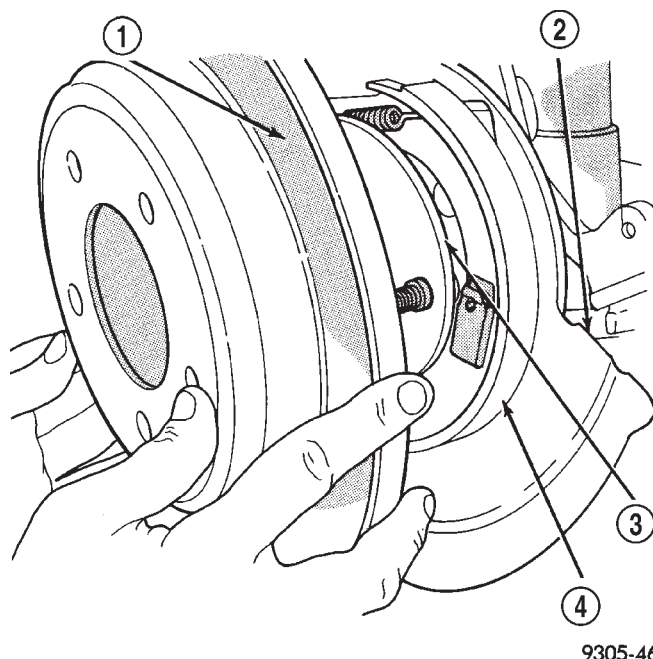

Fig. 93 Installing Rear Rotor
- (1) Completely retract caliper piston back into piston bore of caliper assembly.
- (2) Lubricate both adapter abutments with a liberal amount of Mopar® Multipurpose Lubricant, or equivalent.
- (3) If removed, install the rotor on the hub making sure it is squarely seated on the face of the hub (Fig. 93).